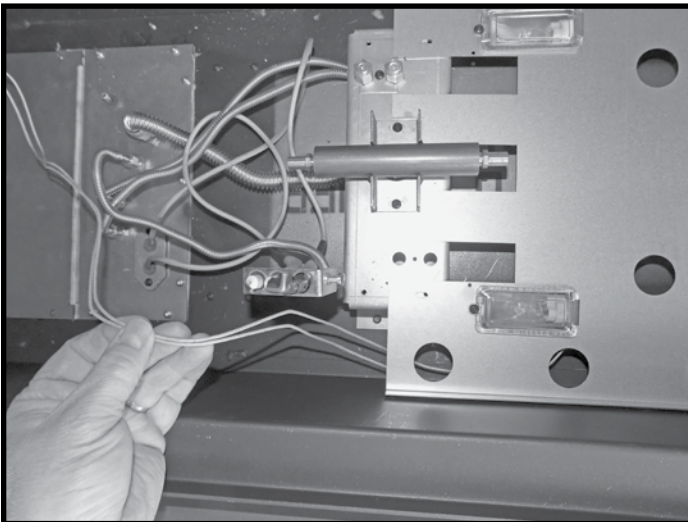

Figure 89: Right hand plate in place with its wires brought out from under it.
- With the control compartment to your left, place the right-hand secondary floor plate in place and route the two wires from the lights to the left side of the firebox (Figure 89). Feed the two wires down through the left most grommet in the gas control compartment cover (Figure 90).